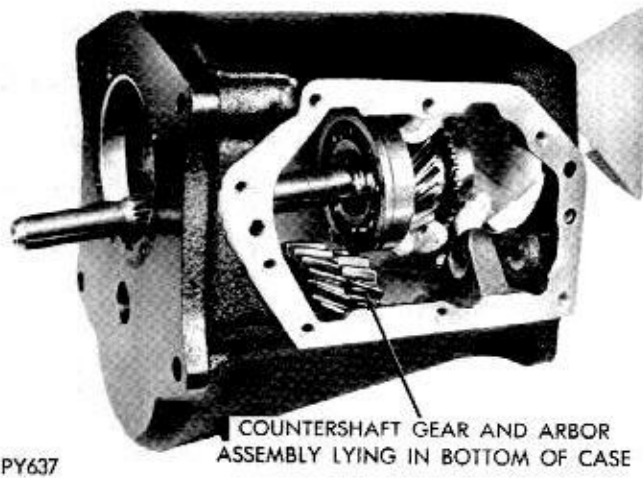

Fig. 11—Drive Pinion and Bearing Assembly—Removal or Installation
(10) Install drive pinion and bearing assembly into case (Fig. 11).